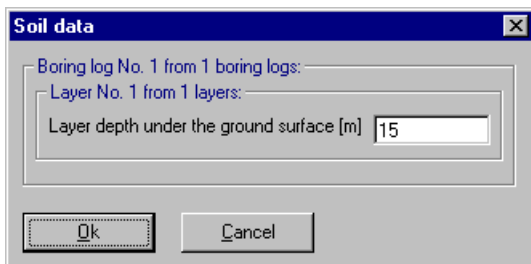

Figure 3-17 "Layer depth under the ground surface" edit box
- Double-click on the layer depth. The corresponding dialog edit box to modify the layer depth under the ground surface appears, Figure 3-17